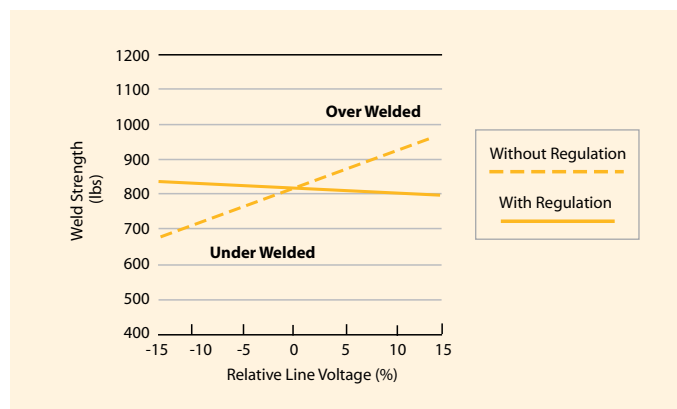

Figure 4
- **Line/Load Regulation** – Patented closed-loop amplitude control corrects for variations due to power line fluctuations and varying load conditions. Output amplitude will vary by only $\pm 2\%$ with line voltage variations of $\pm 10\%$, to ensure weld consistency. See Figure 4.